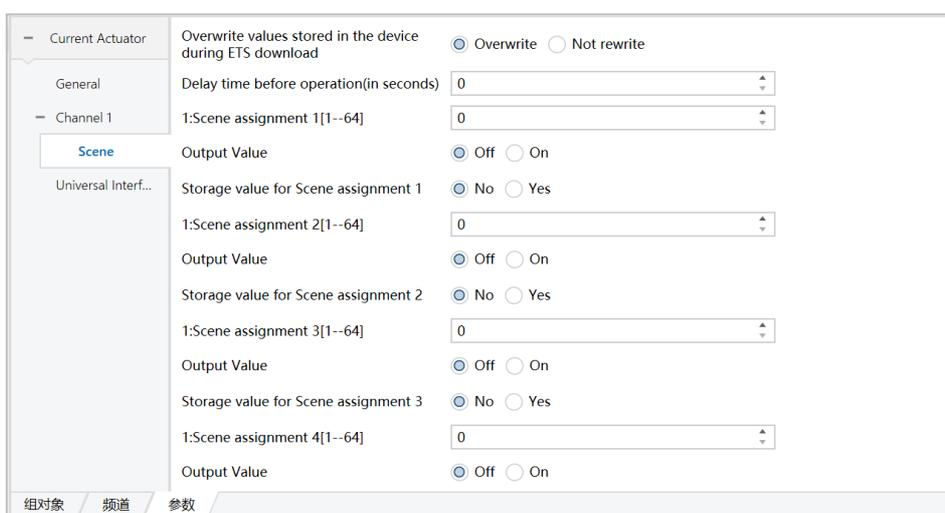

Figure 6.1.4
<p>The "scene" option appears in the channel corresponding to the edge, click "scene" and the interface switches to the one shown in Figure 6.1.4. The parameters in the interface are configured as follows:</p> <ol style="list-style-type: none"> 1. "Overwrite values stored in the device during ETS download "option : ①Overwrite, ②Not parameter Overwrite, ② parameter Not rewrite; 2. "Delay time before operation" indicates the delay time before operation, optionally "1-127" seconds; 3. "Scene assignment 1-64" indicates the setting of the scene number, and the scene number can be set to 1-64; 4. "Output Value" indicates the output value of the corresponding channel operation of the scene number, with the following options: On (on), Off (off); 5. "Storage value for Scene assignment X" indicates the scene learning function of scene number X, (X:1~64), options: No (off), Yes (on), (e.g.: Channel 1 and Channel 2 in the parameter) Select "1" for "Scene assignment 1[1-64]", "Storage value for Scene assignment 1" select "Yes". When "Yes" is selected for the parameter "Scene assignment 1[1-64]" and "Storage value for Scene assignment 1", the communication object takes the group address 3/1/1 as an example, and after the data download is completed, the hand-control operation of CH1 and CH2 on the actuator module will be On, and the "Diagnostic" function will be entered at the "Diagnostic" function on the ETS. At the "Diagnostic" of ETS, input the group address 3/1/1, then select "Learn" in "Value", and choose "1" for the scene number, and send it out on the bus, then the scene number will be "1". (If you send it out on the bus, scene No. "1" is used to learn the status of actuators CH1 and CH2 On).
8-bit scene control	<p>Scene control function, options: Enabled (start), Disabledd (deactivate), when selecting "Enabled", the left side of the interface will show "Enabled", "Disabledd", "Disabledd", "Disabledd", "Disabledd", "Disabledd", "Disabledd", "Disabledd".</p> <p>The "scene" option appears in the channel corresponding to the edge, click "scene" and the interface switches to the one shown in Fig. 6.1.4. The functions in the interface are configured as follows:</p> <ol style="list-style-type: none"> "Overwrite values stored in the device during ETS download "option : ①Overwrite, ②Not parameter Overwrite, ② parameter Not rewrite; "Delay time before operation" indicates the delay time before operation, optionally "1-127" seconds; "Scene assignment 1-64" indicates the setting of the scene number, and the scene number can be set to 1-64; "Output Value" indicates the output value of the corresponding channel operation of the scene number, with the following options: On (on), Off (off); "Storage value for Scene assignment X" indicates the scene learning function of scene number X, (X:1~64), options: No (off), Yes (on), (e.g.: Channel 1 and Channel 2 in the parameter) Select "1" for "Scene assignment 1[1-64]", "Storage value for Scene assignment 1" select "Yes". When "Yes" is selected for the parameter "Scene assignment 1[1-64]" and "Storage value for Scene assignment 1", the communication object takes the group address 3/1/1 as an example, and after the data download is completed, the
<p>8-bit scene control</p>	<p>Scene control function, options: Enabled (start), Disabled (deactivate), when selecting "Enabled", the left side of the interface will show "Enabled", "Disabled", "Disabled", "Disabled", "Disabled", "Disabled", "Disabled", "Disabled".</p> <p>The "scene" option appears in the channel corresponding to the edge, click "scene" and the interface switches to the one shown in Figure 6.1.4. The parameters in the interface are configured as follows:</p> <ol style="list-style-type: none"> 1. "Overwrite values stored in the device during ETS download " , option : ①Overwrite, ②Not parameter Overwrite, ② parameter Not rewrite; 2. "Delay time before operation" indicates the delay time before operation, optionally "1-127" seconds; 3. "Scene assignment 1-64" indicates the setting of the scene number, and the scene number can be set to 1-64; 4. "Output Value" indicates the output value of the corresponding channel operation of the scene number, with the following options: On (on), Off (off); 5. "Storage value for Scene assignment X" indicates the scene learning function of scene number X, (X:1~64), options: No (off), Yes (on), (e.g.: Channel 1 and Channel 2 in the parameter) Select "1" for "Scene assignment 1[1-64]", "Storage value for Scene assignment 1" select "Yes". When "Yes" is selected for the parameter "Scene assignment 1[1-64]" and "Storage value for Scene assignment 1", the communication object takes